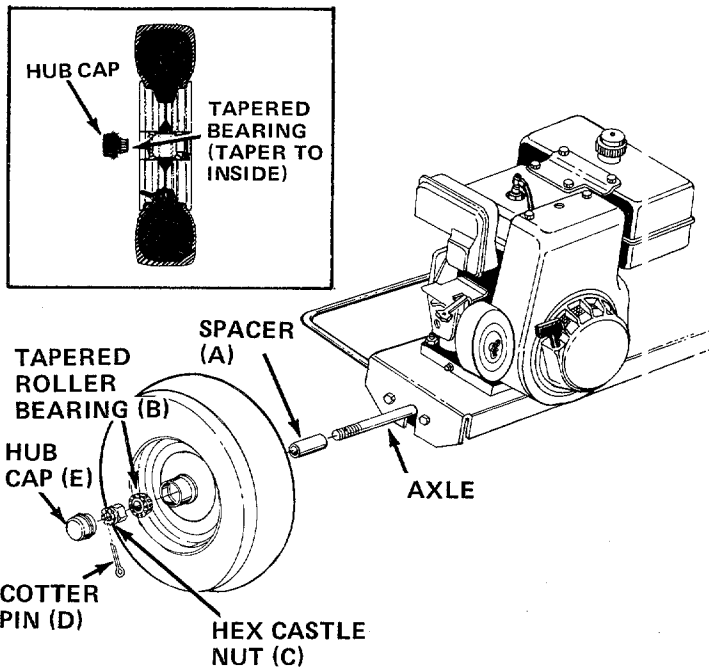

FIGURE 3
3. Place one spacer (A) on the axle, then one wheel and a tapered roller bearing (B). See figure 3.
4. Thread hex castle nut (C) on axle. Tighten castle nut until snug, then back off approximately 1/3 turn or until one of the slots on the castle nut lines up with hole in axle. Secure castle nut to axle with cotter pin (D). See figure 3.